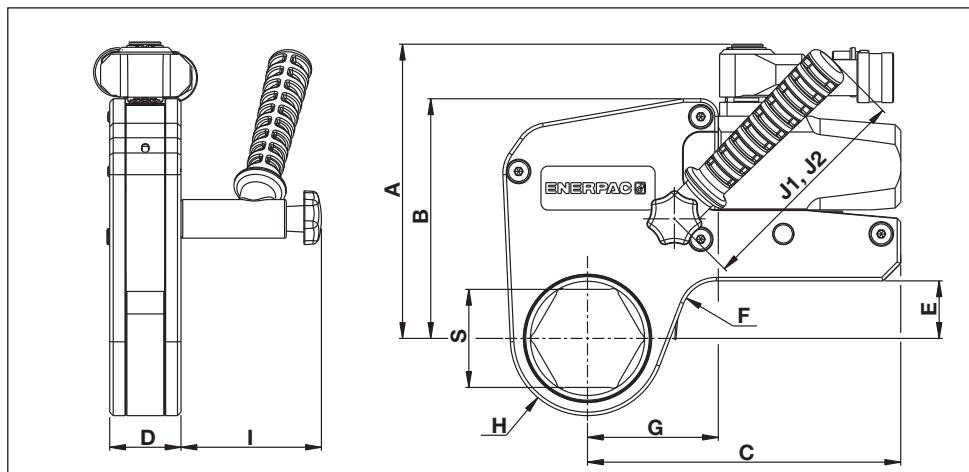

Fig. 20
6.1 Capacities, Dimensions and Additional Product Data (Fig. 20)
6.2.1 Metric System Table - W2000X, W4000X and W8000X Series Cassettes (see Fig. 20 for locations of dimensions S, H and G)